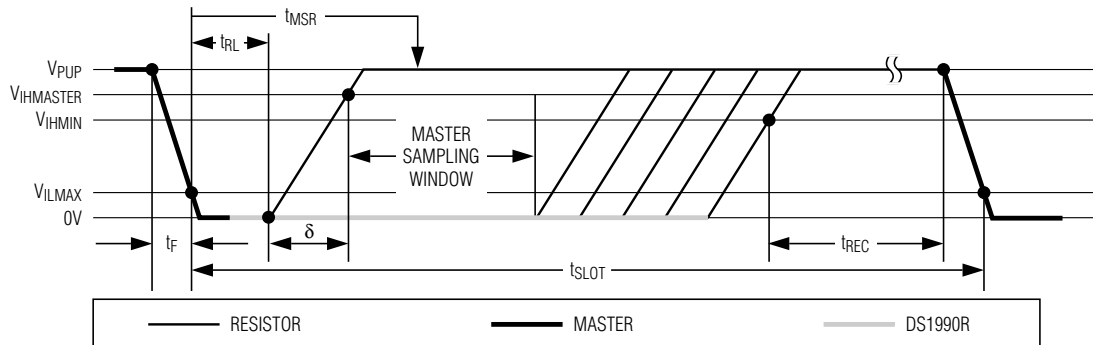

Figure 7. Read/Write Timing Diagram
- Note 14:** ϵ in Figure 7 represents the time required for the pullup circuitry to pull the voltage on IO up from V_{IL} to V_{IH} . The actual maximum duration for the master to pull the line low is $t_{W1LMAX} + t_F - \epsilon$ and $t_{W0LMAX} + t_F - \epsilon$, respectively.
- Note 15:** δ in Figure 7 represents the time required for the pullup circuitry to pull the voltage on IO up from V_{IL} to the input-high threshold of the bus master. The actual maximum duration for the master to pull the line low is $t_{RLMAX} + t_F$.
Data communication with the DS1990R takes place in time slots that carry a single bit each. Write time slots transport data from bus master to slave. Read time slots transfer data from slave to master. The definitions of the write and read time slots are illustrated in Figure 7.